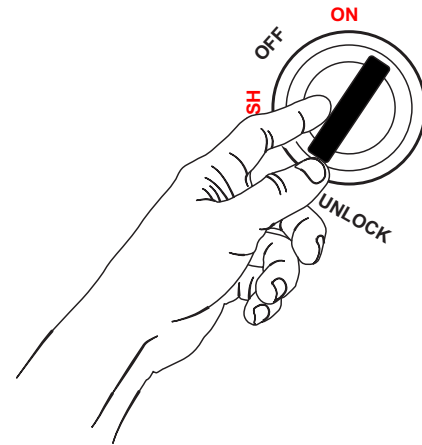

Figure 23. Key Switch UnLock Position
- Next, push inward on the key switch and turn to the **UNLOCK** position (Figure 23). This will cause the battery locking pin to be **retracted**.